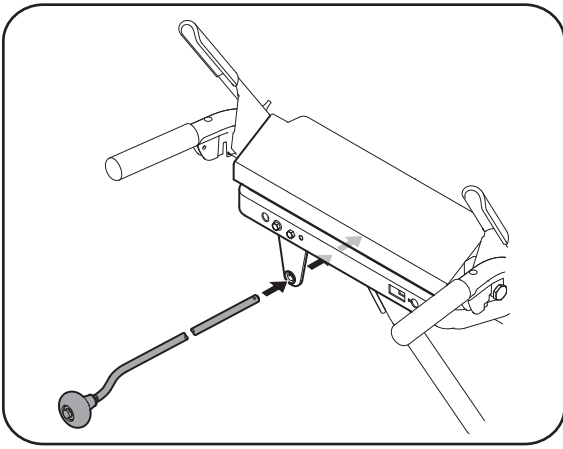

Figure 3-5
- Guide the chute crank rod through the bracket located on the rear of the handle panel. See Figure 3-5.